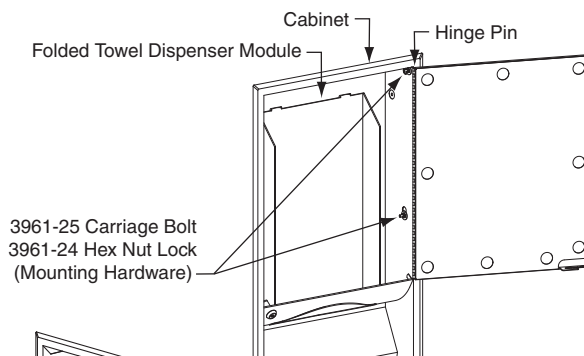

Figure 1
2. Loosen but do not remove the four 3961-24 Washer Lock Nuts located on the left back and right side of the Modular Housing Assembly until the 3961-25 Carriage Bolt can be moved. The 3961-24 Hex Lock Nut should not be removed from the 3961-25 Carriage Bolt, ensuring that the Carriage Bolt will not fall into the wall cavity. (See Figure 1)